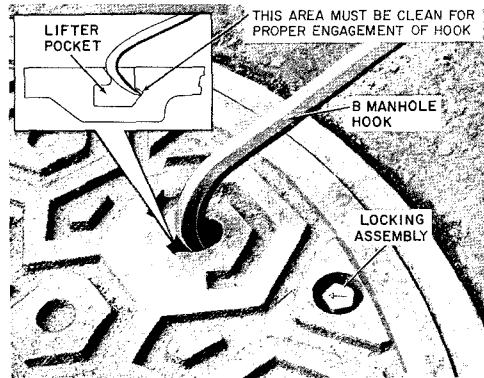

Fig. 16—Inserting B Manhole Hook Into Oval Lifter Pocket (G or H Introductory Cover)
- (1) Locate two of the lifter pockets in the cover surface and remove any dirt in the pocket with a screwdriver or suitable tool. This is accomplished by a simple jab-and-pry technique, flipping the debris toward the center of the cover. To remove hardened material from the pocket, use a hardened cold chisel.
- (2) Insert the manhole hook into one of the pockets as shown in Fig. 16, with the point of the hook toward the rim. **Make certain** that the hook tip engages the grooves as shown in Fig. 16.
- (3) To unseat the cover, pry up on the handle of the B manhole hook, using the knees as a fulcrum or rest for the forearms. When the near edge of the cover is clear of the frame approximately 4 inches, rock backward on the feet and allow the far side of the cover to drop into the frame.